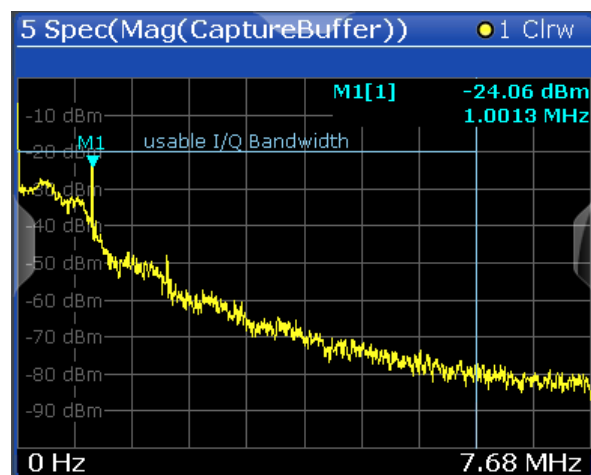

Figure 3-1: Symbol rate as the peak in the spectrum
3. Select "Next Peak" to move the marker to the most distinct peak, as shown in Figure 3-1.